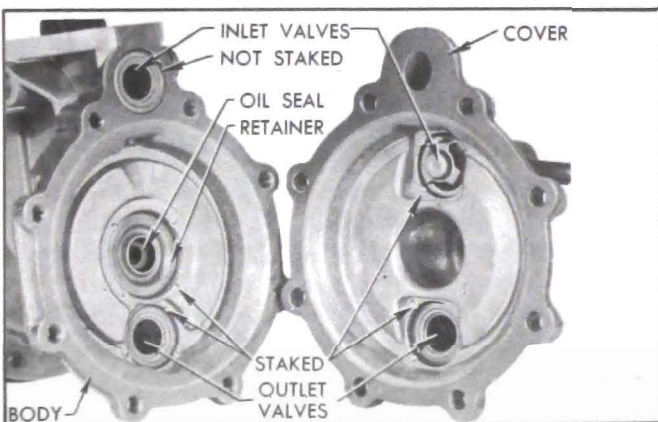

Figure 3-16—Vacuum Valves and Pull Rod Seal
4. Cut off the burrs produced by staking, then remove all valves from cover and body by prying out with a screwdriver or hook-shaped tool. The valve adjacent to body mounting flange is not staked in place. See figure 3-16.
3. Inspect the rubber pull rod oil seals in pump body. See figure 3-16. If damaged or of doubtful condition, pry out the metal retainer and discard the rubber seal. Place new seal in body with concave side outward, press metal retainer down firmly into body with the flat end of a rod $\frac{7}{8}$ " in diameter, then stake body metal in four places around the retainer.
2. Place a *new* valve gasket in each valve seat in vacuum cover. Place one valve in seat nearest inlet port with the spring cage side facing up. Place another valve in the outlet valve seat with the spring cage side down. Press valves down firmly against gaskets, then stake cover metal in four places around each valve. See figure 3-16.
flange in pump body, then stake in place. See figure 3-16. Do not install the inlet valve adjacent to mounting flange at this time.